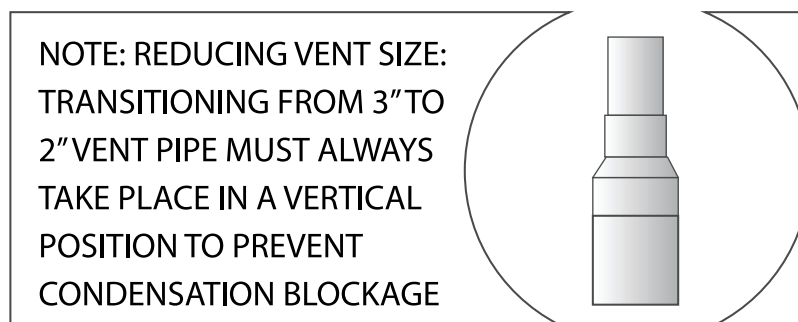

Figure 7 – Transitioning from 3" to 2" Vent Pipe
5. For 2" installations, install the reducing coupling in a vertical section of pipe. At least a 6" length of 3" pipe **MUST BE INSTALLED** before reducing to 2". See Figure 7.